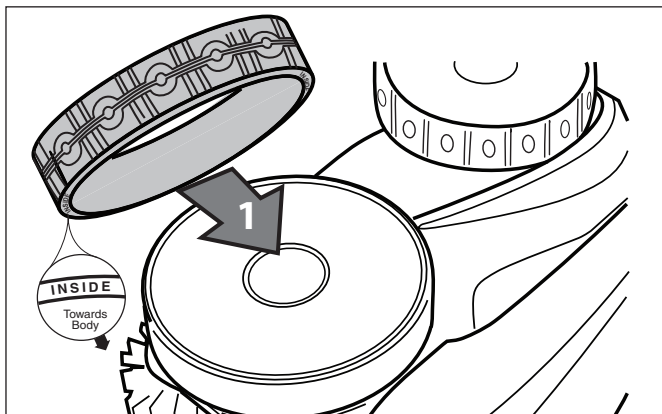

Figure 35. Tyre Replacement Orientation
3. To replace the tyre, position the tyre on the wheel making sure to orient the tyre so that the word **INSIDE** is toward the body of the cleaner (Figure 35).